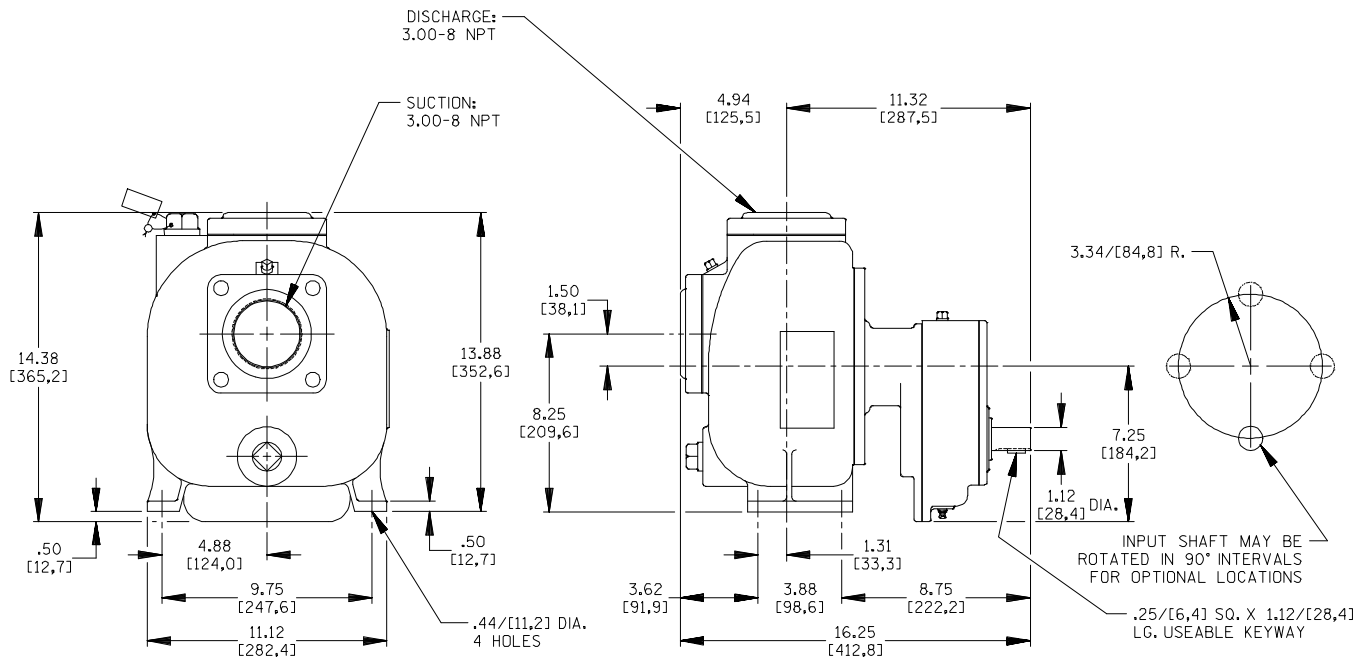

Figure 1. Pump Model 03H1-GR
See Figure 1 for the approximate physical dimensions of this pump.
*If the gearbox is rotated out of the standard position shown in Figure 1, the oil fill and drain plugs must be relocated. The oil vent must be relocated to the highest port. Consult the factory for correct positioning of the fill plug to provide for proper lubrication of the gearbox.*